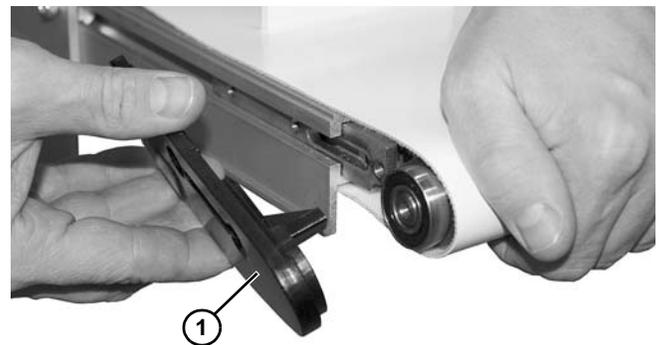

Figure 104
3. Remove the head plate (Figure 104, item 1) from the conveyor frame, holding spindle in place.